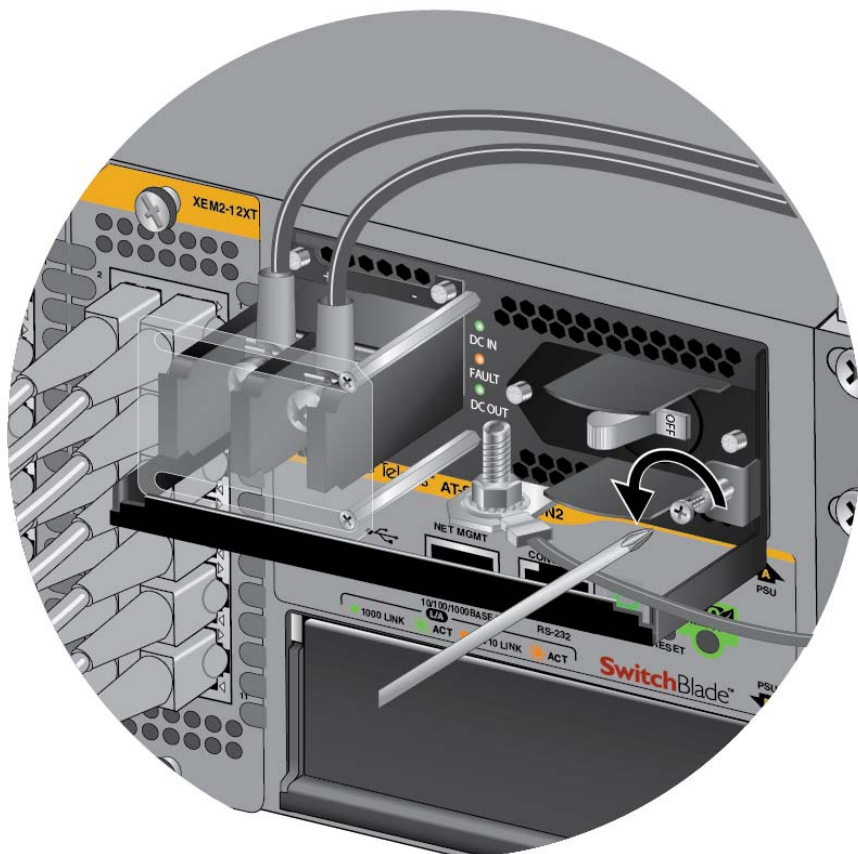

Figure 96. Loosening the Screw on the Locking Handle
3. Use a #2 screwdriver to loosen the screw on the locking handle. Refer to Figure 96.